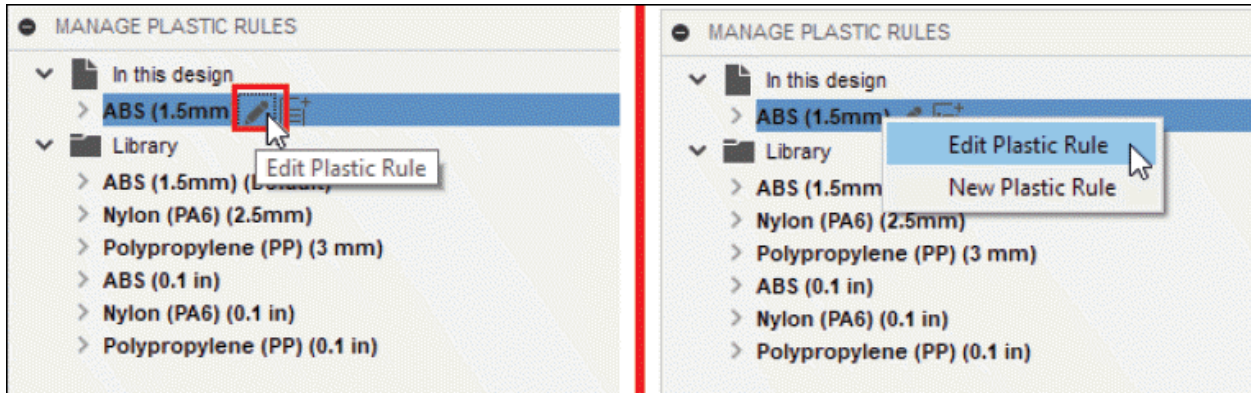
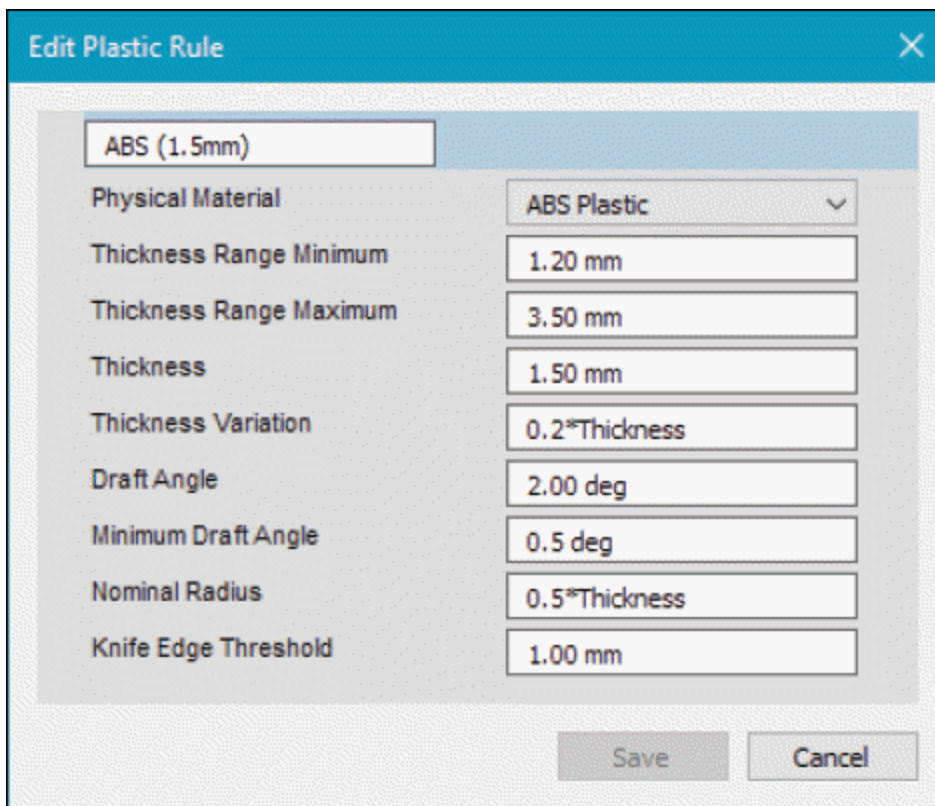

Figure-142. Edit Plastic Rule button
Figure-143. Edit Plastic Rule dialog box
- If you want to edit the rule, then select the rule you want to edit and click on **Edit Plastic Rule** button or right-click on the rule that you want to edit and select **Edit Plastic Rule** button; refer to Figure-142. The **Edit Plastic Rule** dialog box will be displayed; refer to Figure-143.